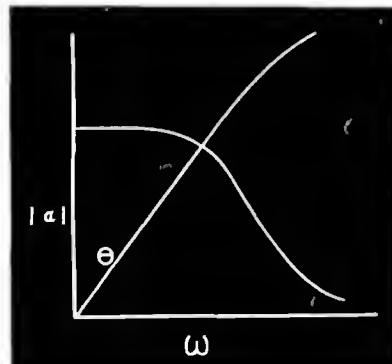

Figure 4
The first form is in complex notation, Eq. (5), and the second in the equivalent trigonometric notation, namely, an amplitude at an angle (given by its arctangent), while the third form expresses more generally the fact that the gain may be represented by a magnitude which is a function of the angular frequency  $\omega$ , at an angle which is also a function of  $\omega$ . The two components of the gain are plotted independently in Figure 4. It is evident that the amplitude of the gain drops off with increase in  $\omega$  and approaches zero asymptotically while the phase shift is not linear with frequency except approximately for a short distance from zero frequency. Reference to Eq. (5) indicates that if we wish this amplifier to be approximately flat to a high value of  $\omega$  it is necessary that  $C_t R$  be correspondingly small in order that the product  $\omega^2 C_t^2 R^2$  be small compared to unity. For a given value of  $C_t$  determined by the shape of tube and circuit layout, such flatness of gain and also linearity of phase shift can be achieved only by the use of a small load resistance  $R_L$ , which in turn means that the magnitude of the gain will be small. Thus, so-called video amplifiers that are to be flat to 100,000 cycles or more, often